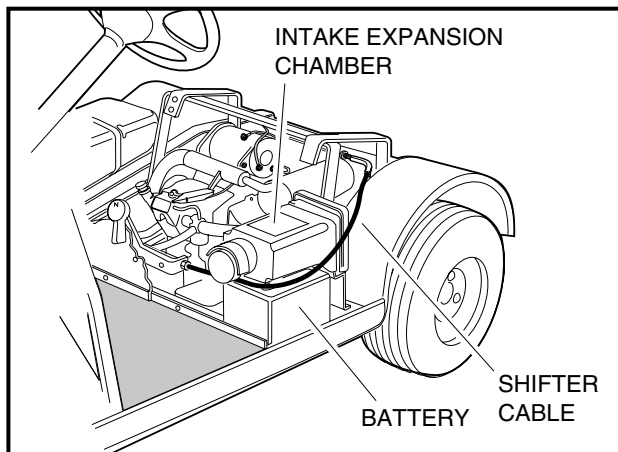

FIGURE 10-105
1. From the forward and reverse switch, route the cable toward the driver side of the vehicle so that it lies against the side of the front body and runs between the battery and intake expansion chamber, turns 90°, runs over the fender and then turns again in front of the rear post of the body support to connect with the shifter arm on the transaxle (**Figure 10-105, Page 71**).